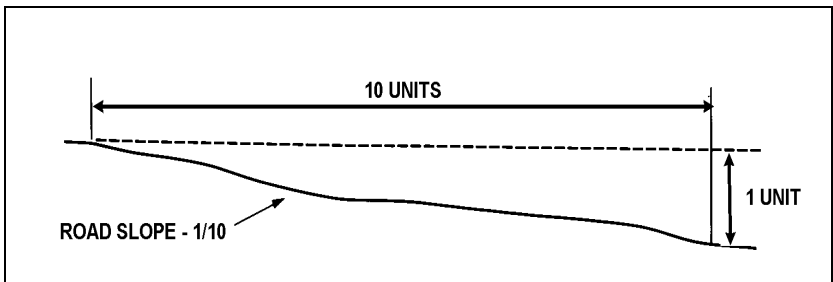
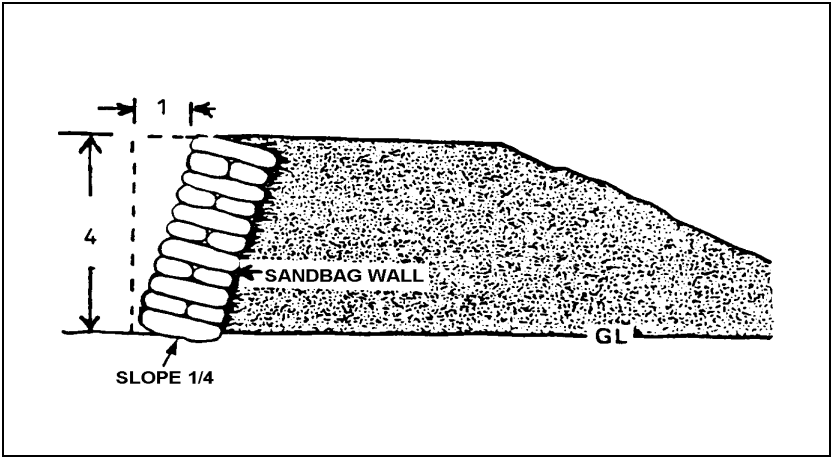

Fig 11-2-1 Gradient on a Road
Fig 11-2-2 Slope of a Sand Bag Wall
5. Slopes can be measured by using a field level, boning rods, or an Abney hand level. Two types of slopes are shown in Fig 11-2-1 and Fig 11-2-2.